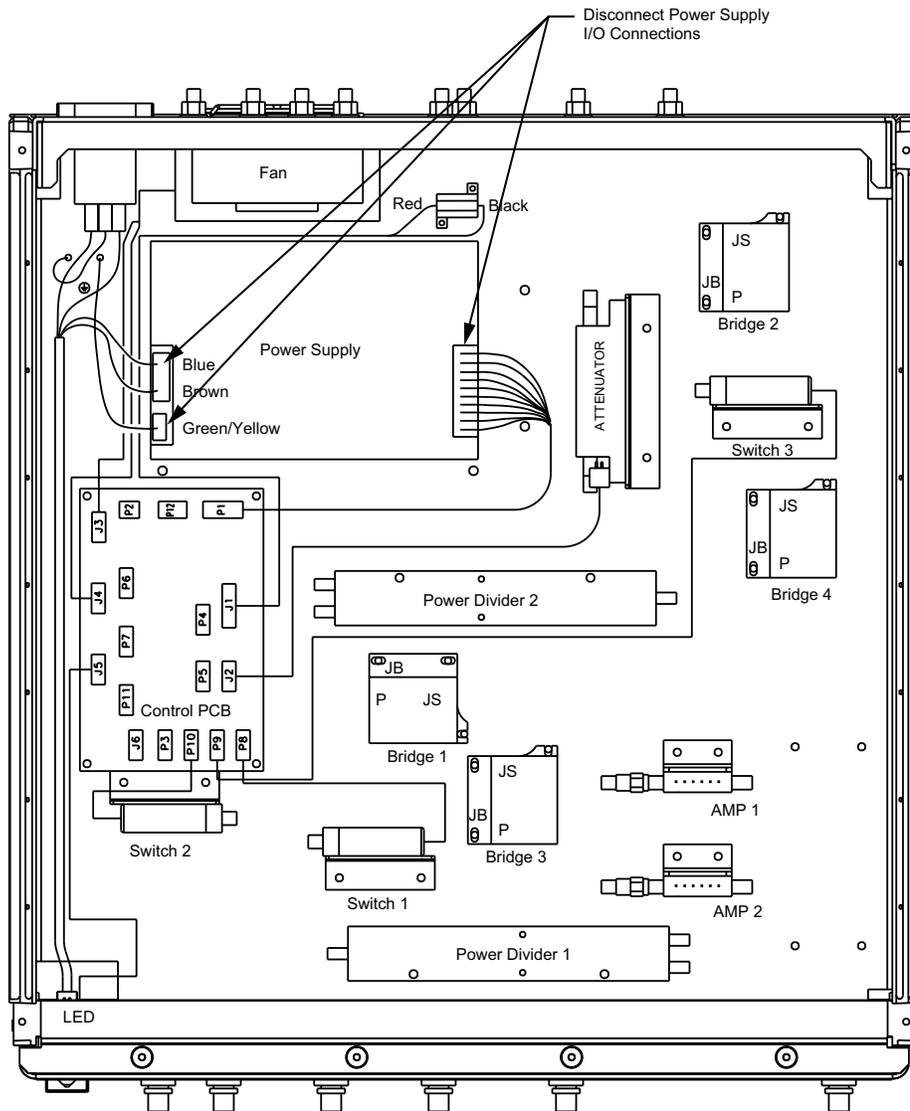

Figure 5-6. Power Supply Removal (Top View)
- Step 2.** Disconnect all of the wire connections from the Power Supply (Figure 5-6).